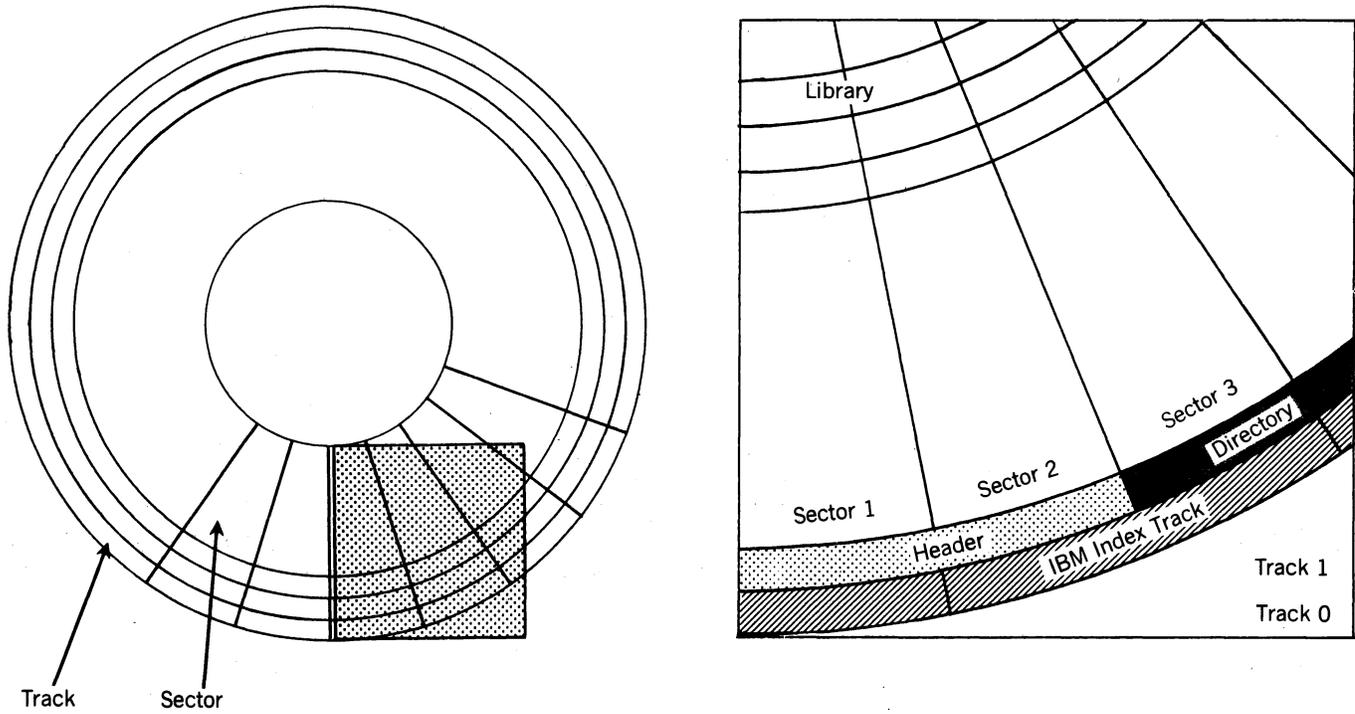

Fig. 4—Diskette Layout
**6.02** Each diskette is composed of 77 tracks, and each track contains 26 sectors. General user information (data) is stored in the "Library" section of the diskette and a listing of all files is kept in the Directory (Fig. 4).